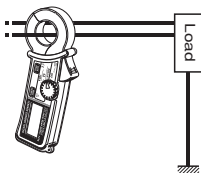

Fig.4 Measuring load current
- (1) Set the Range Selector Switch to the desired position. Current to measure should be within the selected measuring range.
- (2) Measuring load current (See Fig.4): Press the jaw trigger to open the transformer jaws and close them over one conductor only. Measured current value is shown on the display.